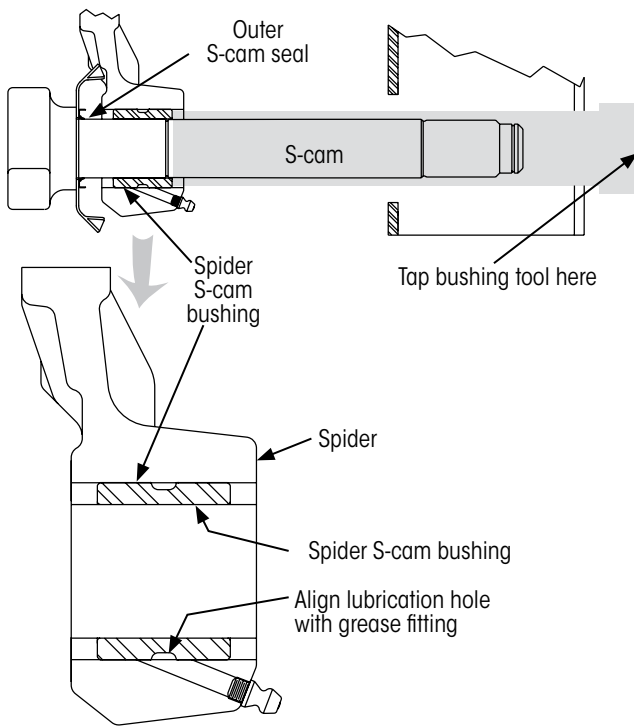

Figure 17: Spider S-cam bushing installation
3. Use the bushing tool (Figure 11 on page 13) to install the spider S-cam bushing into the spider (Figure 17).
4. Tap on the end cap of the bushing tool with a hammer until the lubrication hole in the bushing aligns with the grease fitting in the spider (Figure 17). When aligned, remove the bushing tool.